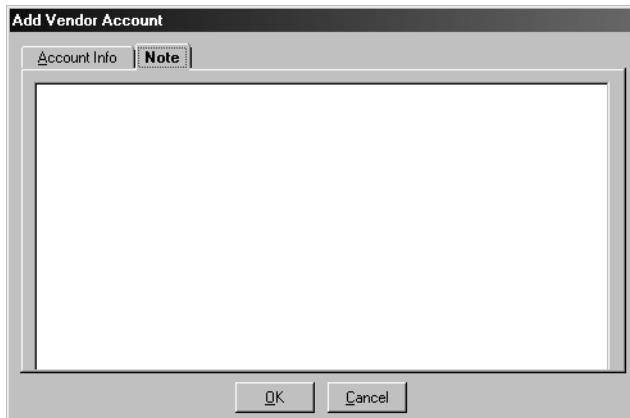

Figure 4-17. Add Vendor Account dialog box - Note tab
10. Click the **Note** tab (Figure 4-17) and enter the information in the free-text box if wanted.
11. Click the **OK** button to save the account and close the **Add Vendor Account** dialog box (see Figure 4-17). Click the **Cancel** button to close the dialog box without saving.